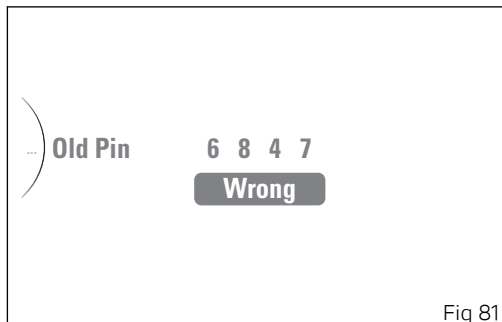

Fig 81
- if the pin code is not correct, the instrument panel displays "Wrong" (Fig 81) highlighted in red for 2 seconds and then goes back to previous screen, to allow you to try again;